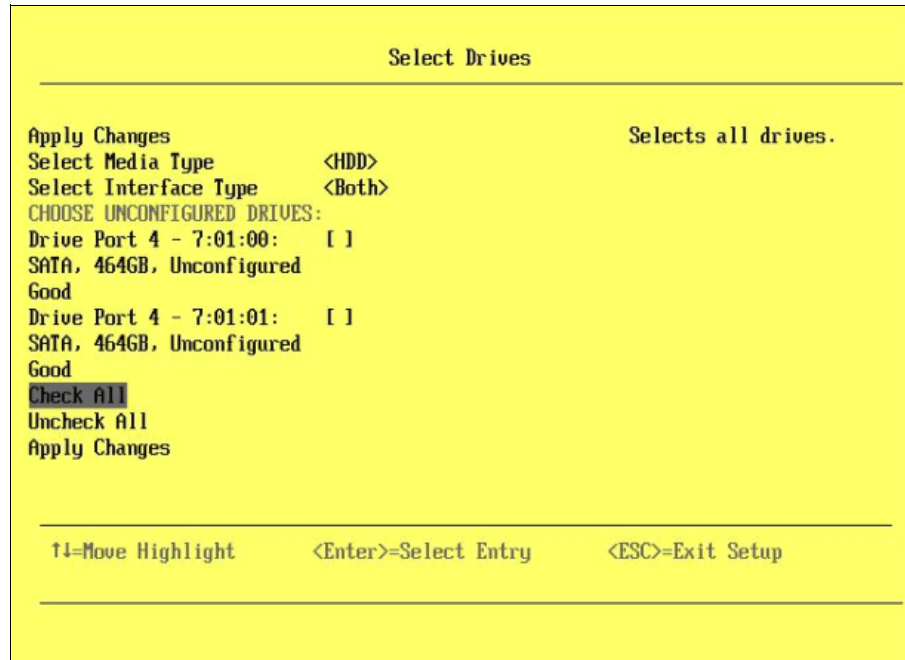

Figure 2-26 Select Drives pane: Check All
10. Verify that both drives are listed and select **Check All**, as shown in Figure 2-26.